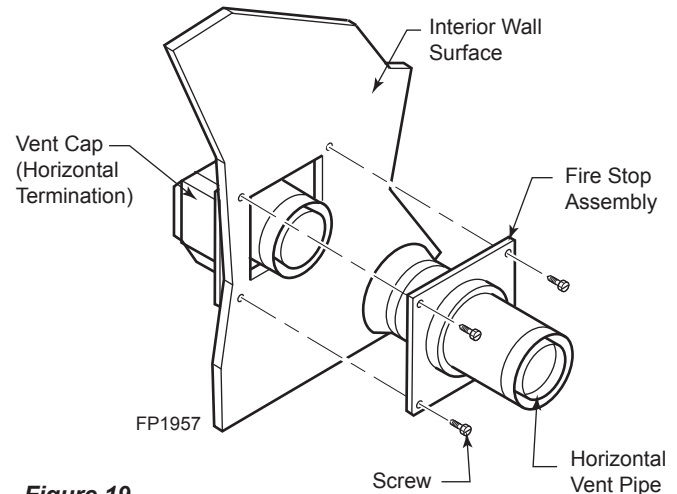

Figure 19 - Connect Vent Cap with Horizontal Vent Pipe
- Slide the wall thimble over the vent pipe before connecting the horizontal run to the vent cap. *Figure 19*
- Slide the wall thimble against the interior wall surface and attach with screws. *Figure 19*